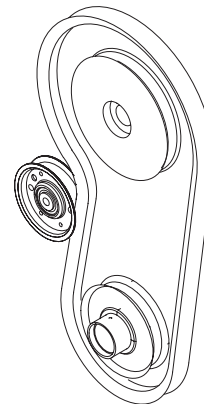

Figure 16
9. Replace belt. Make sure belt is routed around fan and P.T.O. pulleys and against idler pulley (Fig. 16).